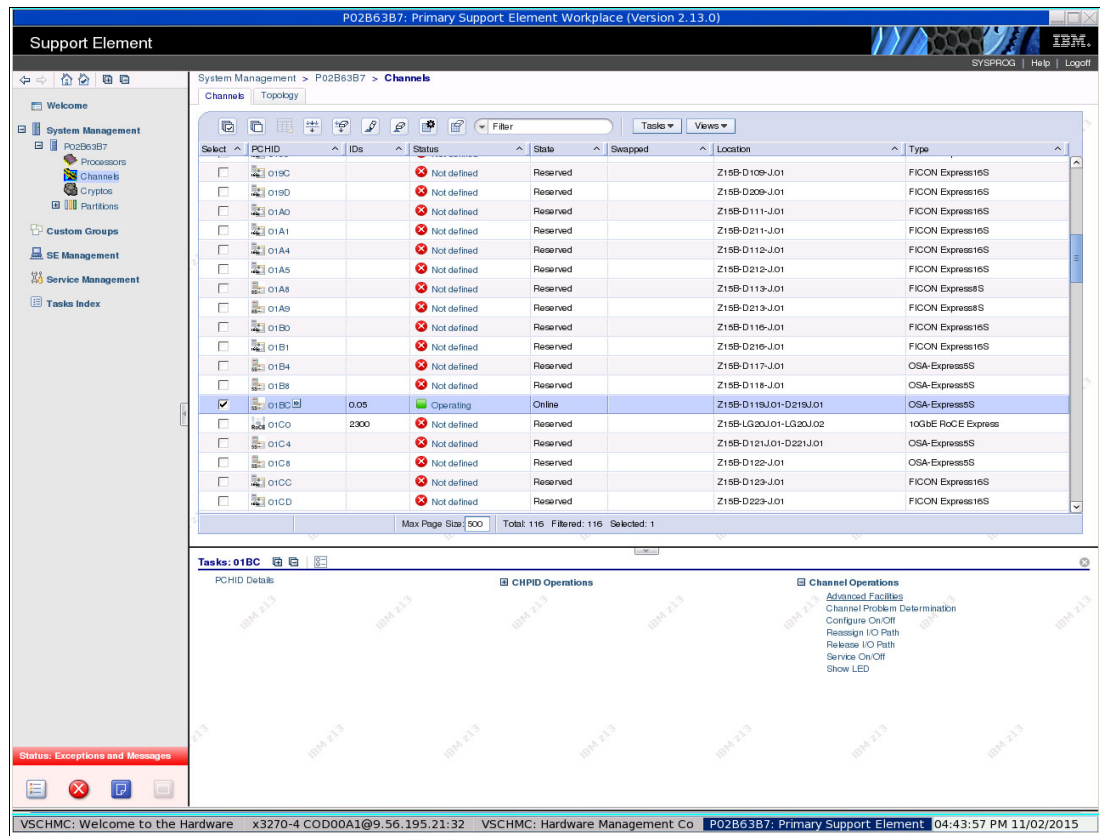

Figure 7-4 Selecting the CPC OSA-ICC channel
- We select **System Managements** → **P02B6B7 (our server)** → **Channels**. The CPC P02B6B7 channels appear in the right side of the SE panel. Select the **OSA - ICC Channel PCHID 1BC** channel, as shown in Figure 7-4.